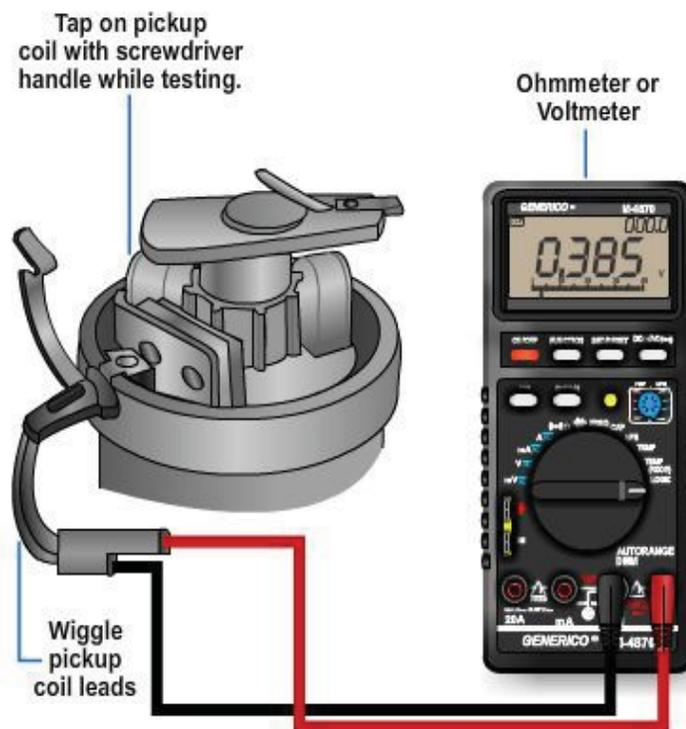

Figure 6-36 - Testing magnetic pickup coils.
1. Connect an ohmmeter or low-reading AC voltmeter across the pickup coil output leads, as shown in *Figure 6-36*.